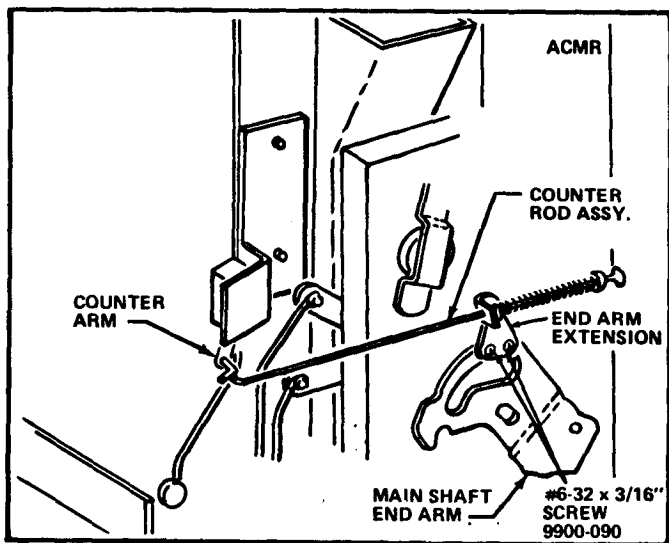

Figure 3
6. Hook the end of the Counter Rod Assembly into the hole in the Counter Arm. See Figure 3.
7. Attach the End Arm Extension to the Main Shaft End Arm with the two #6-32 x 3/16" Round Head Slotted Screws with Lockwasher, part number 9900-090, included in the Kit. See Figure 3.